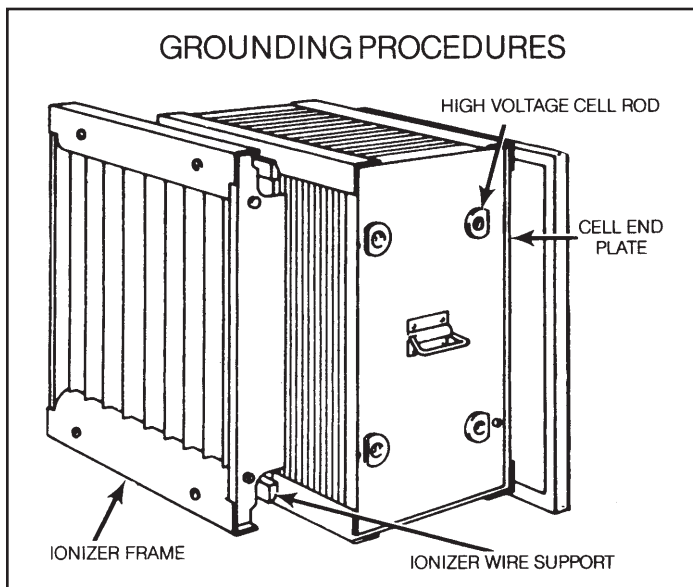

FIGURE 5
- For added safety, manually discharge the ionizer and collection cell/unicell in the following manner. Place the blade of a common screwdriver (with insulated handle) across the ionizer wire support and then the ionizer frame. Next, place the screwdriver blade across the cell end plate and then across a cell “hot” plate. This will remove any residual charge that may not have bled off. Refer to figure 5.